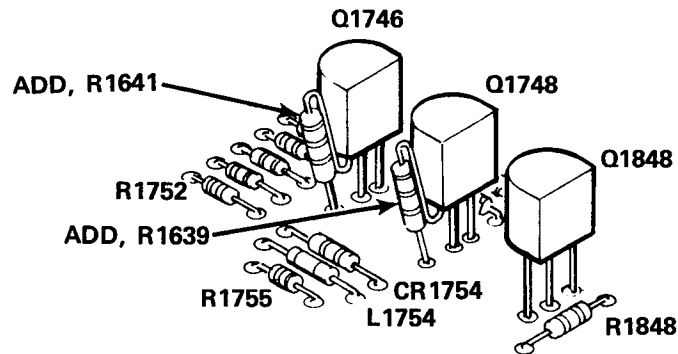

Figure 12. - Q1746 and Q1748 configuration.
- () 24. Unsolder the base leads of Q1746 & Q1748 transistors from the circuit board, located nearest to CR1754. Solder one lead of R1641 and R1639, pn 313-1510-00, to the base leads of Q1746 & Q1748 respectively. Then solder the remaining leads of R1641 and R1639 to the circuit board pads from which the base leads were removed, refer to Figure 12.